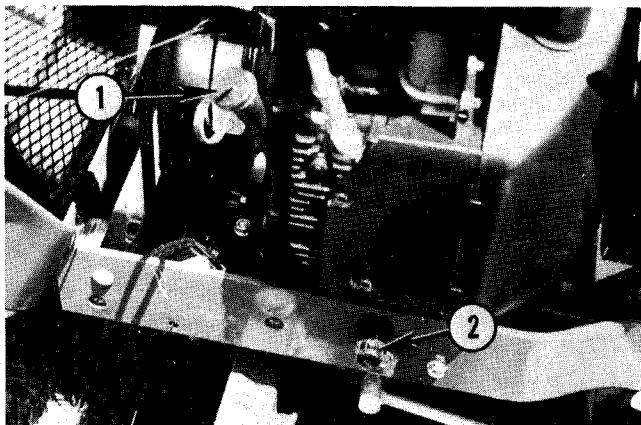

Fig. 16 — Engine Crankcase Lubrication
CHECK CRANKCASE — FIG. 16
1. Remove crankcase drain plug, Fig. 16.
5. Replace drain plug and fill crankcase, Fig. 16, with SAE 30 oil, Service Class SE/CC (see Temperature Chart), Page 16.